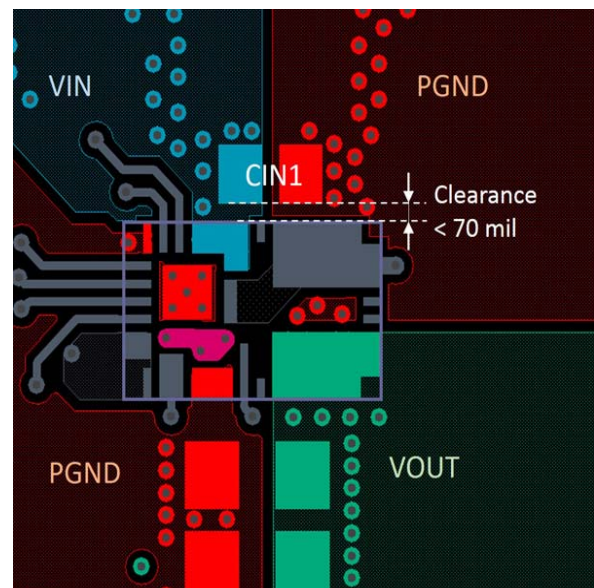
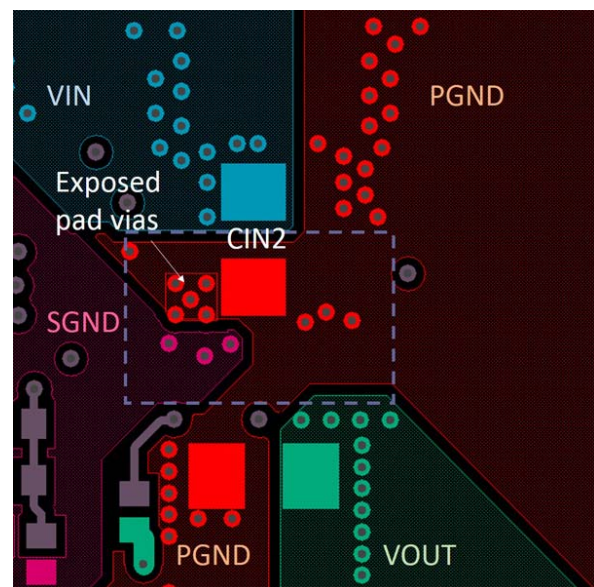

FIGURE 39. LAYOUT EXAMPLE - TOP LAYER
FIGURE 40. LAYOUT EXAMPLE - BOTTOM LAYER
A few layout considerations need to be taken into account in order to achieve proper operation of ISL8202M. An optimized layout design also allows the module to have lower power loss and good thermal performance. An illustrative layout example is shown in Figures 39 and 40. Key points are listed in the following:
- Place the input ceramic capacitors as close as possible to the module input. These ceramic capacitors are used to minimize the high frequency noise by reducing parasitic inductance of the switching loop. Optimized placement of these capacitors will not only lead to less switch node ringing but also minimize the noise seen by the module to insure proper operation. It is recommended to use X5R or X7R ceramic capacitors with minimum total capacitance of 44 $\mu$ F at module input. It is a **MUST** that one of the input capacitors ( $C_{IN1}$ ) with no less than 3.3 $\mu$ F capacitance should be placed on the same layer (assuming top layer) as module and within less than 70 mil clearance to module input (refer to Figure 39). For capacitors on the bottom layer, it is recommended to have one ( $C_{IN2}$ ) placed from VIN to PGND copper close to exposed pad (Pad 20) vias (as shown in the layout example in Figure 40).
- Use a separate SGND ground copper area for components that are connected to signal ground. Connect SGND copper to module Pad 22 through multiple vias (refer to Figure 40). Because Pad 22 is connected to module internal PGND at a single location, the SGND copper area and PGND plane on the PCB can be left separated.